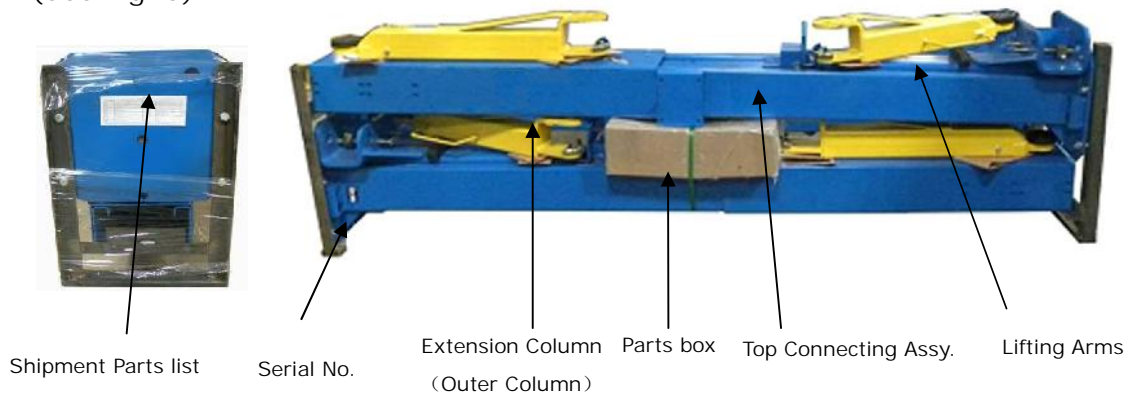

Fig. 6
2. Move aside the lift with fork lift or hoist, and open the outer packing carefully (See Fig. 6).